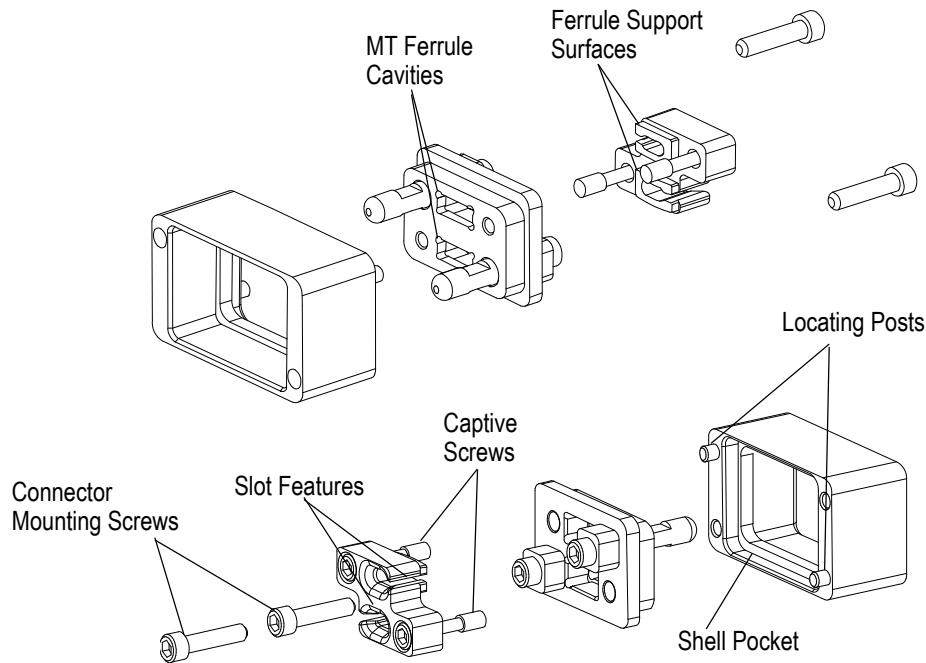

Figure 2
A. Receptacle (Backplane) Connector Kit (Figure 2)